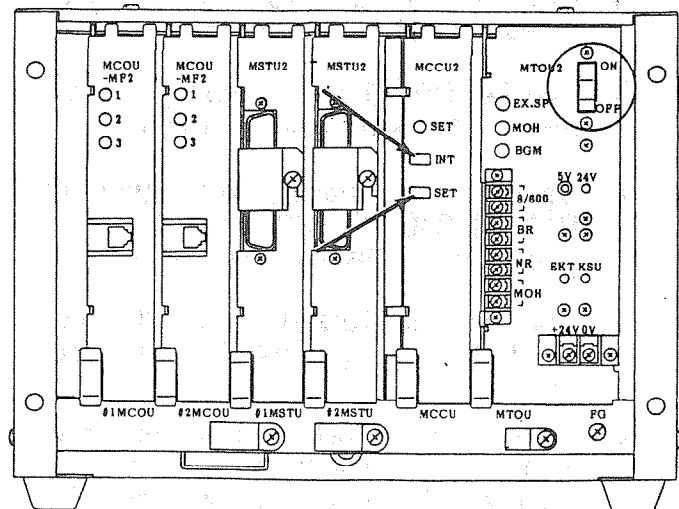

FIGURE 23
09.03 To initialize the system data memory, refer to Figure 23 and perform the following steps: